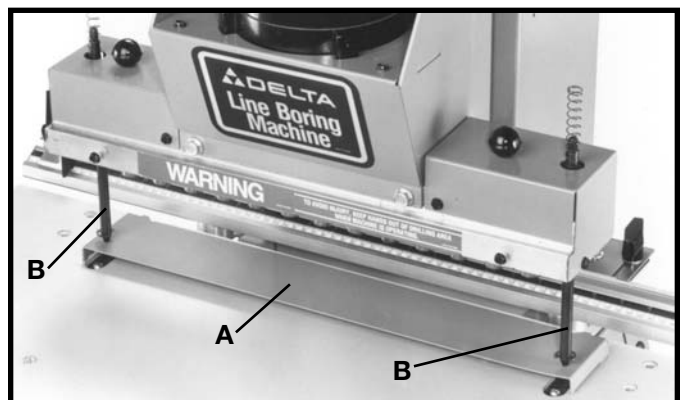

Fig. 17
3. Allow indexing pins (B) Fig. 17, to lower until points of indexing pins engage the two holes in gage (A) as shown.